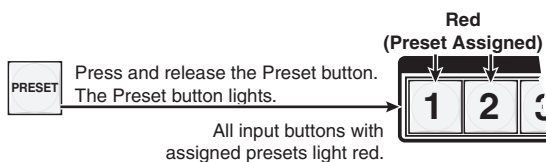

Figure 3-45 — Enter Recall Preset mode
2. Press and release the Preset button (figure 3-45).